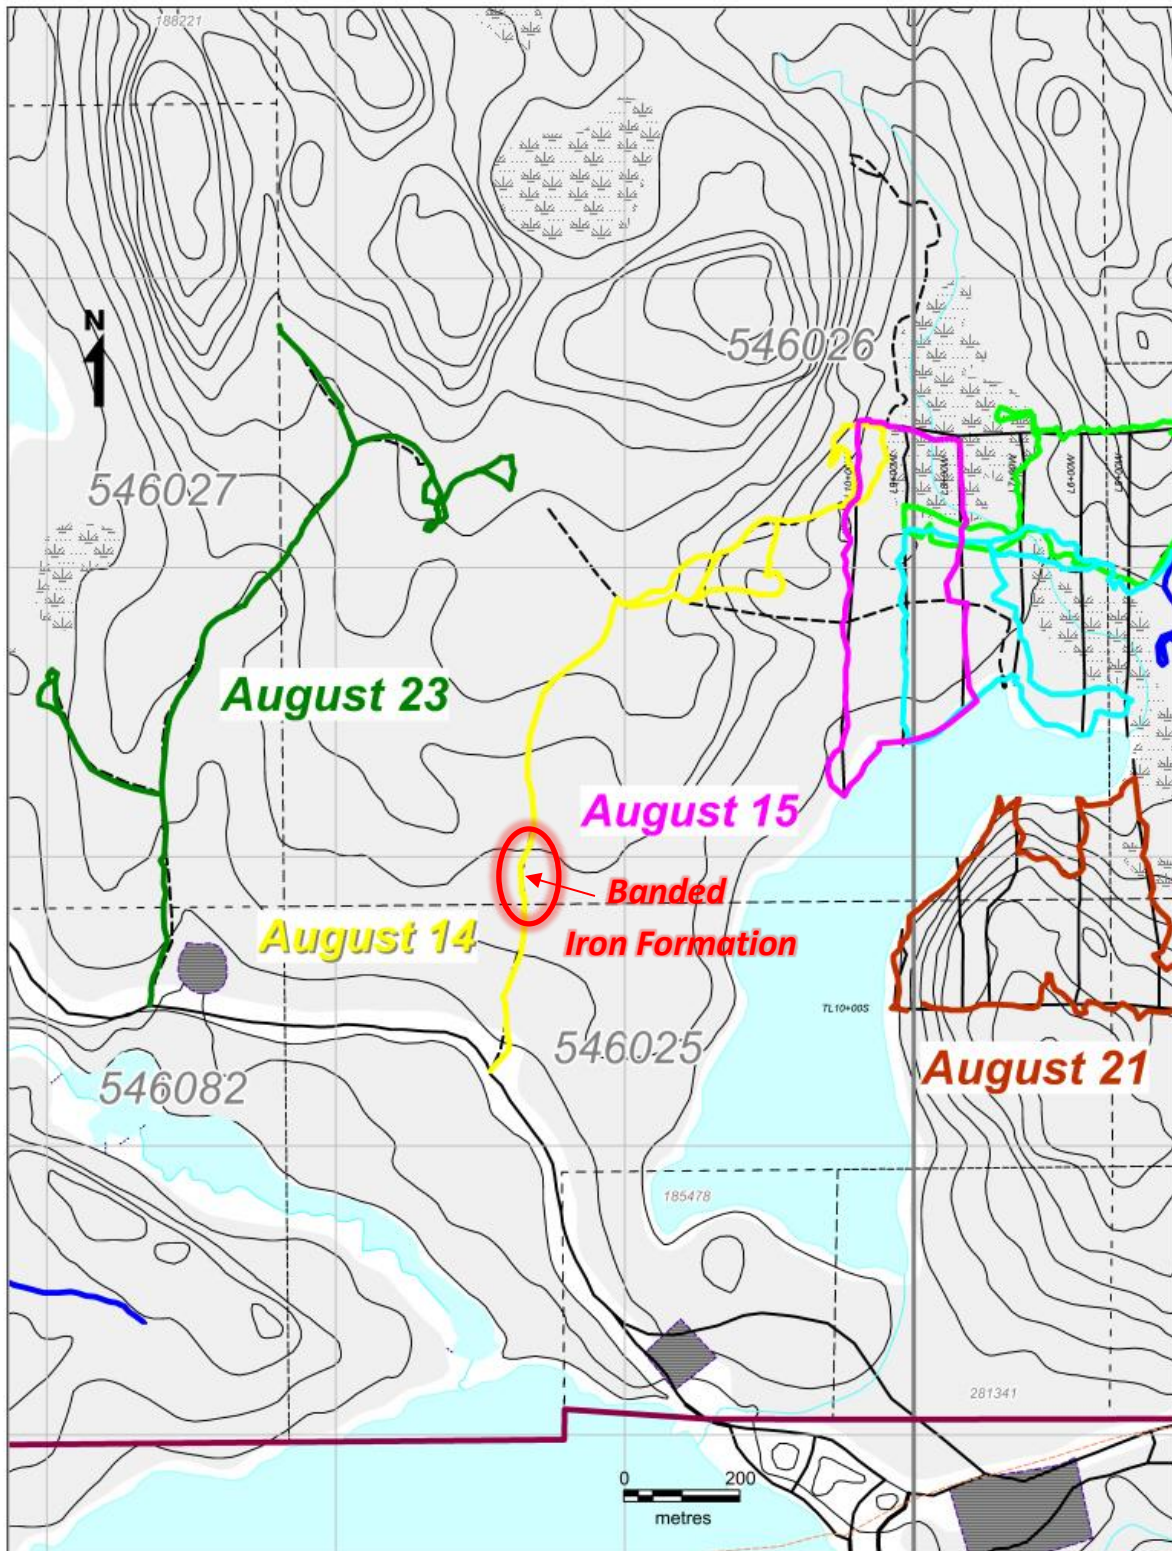

Figure 5: BeepMat Traverses and Anomaly Areas
In the summer of 2020, a ground electromagnetic BeepMat survey was completed on the Clement property. The BeepMat (Photo 1) was a GDD Instrumentation model BM8 (Appendix II) on loan from the Ministry of Energy, Northern Development and Mines, Sudbury District Geologist's office. 10 BeepMat traverses (Figs 5 to 7) were performed
- On the August 14 traverse anomalies were detected at waypoints 2020-418 to 2020-423 and 2020-440 to 2020-442 (Fig. 5 and Table 2). These can be interpreted as part of the previously mapped Banded Iron Formation and associated sulphide rich argillite (Geology Map, back pocket).